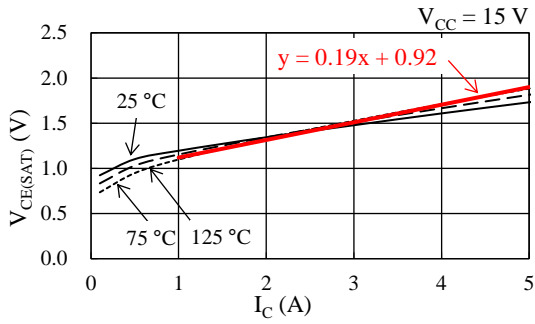

Figure 16-3. Linear Approximate Equation of $V_{CE(SAT)}$ vs. I_C
Steady-state loss in an IGBT can be computed by using the $V_{CE(SAT)}$ vs. I_C curves, listed in Section 17.3.1. As expressed by the curves in Figure 16-3, linear approximations at a range the I_C is actually used are obtained by: $V_{CE(SAT)} = \alpha \times I_C + \beta$. The values gained by the above calculation are then applied as parameters in Equation (12), below. Hence, the equation to obtain the IGBT steady-state loss, P_{ON} , is: